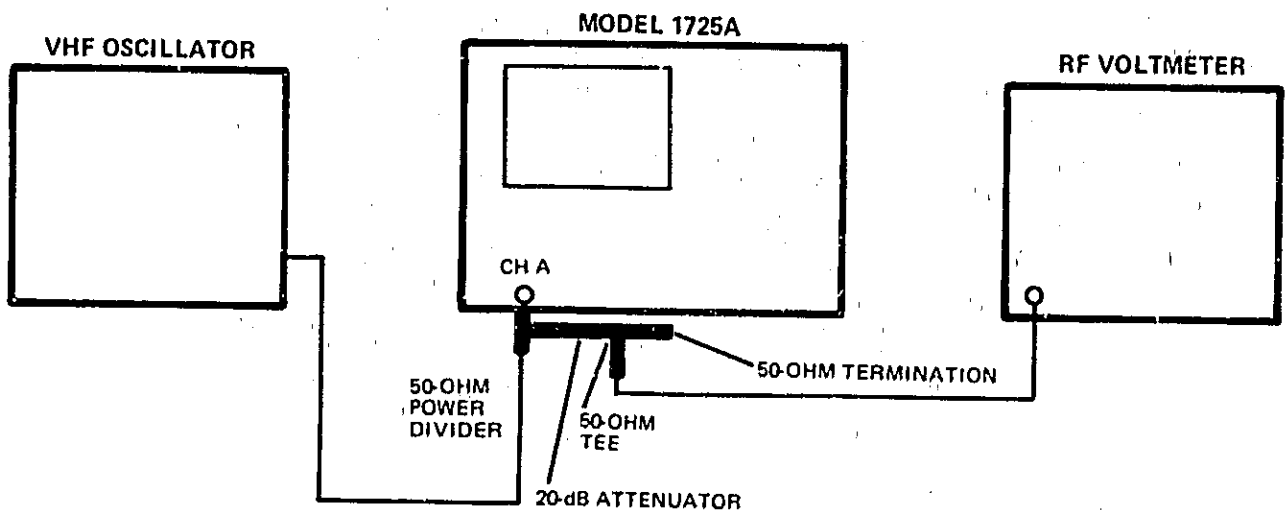

Figure 5-4. Bandwidth Test Setup
- a. Connect equipment as shown in figure 5-4.